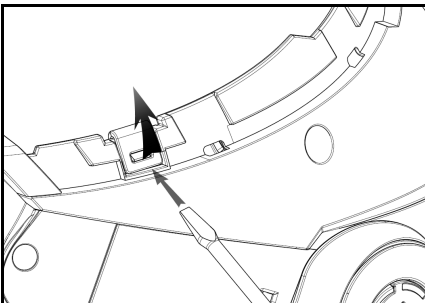

Fig. 13
- Unhook the right and left clips from the shell, levering upward using a flat head screw (or a similar tool), as shown in figure 13.